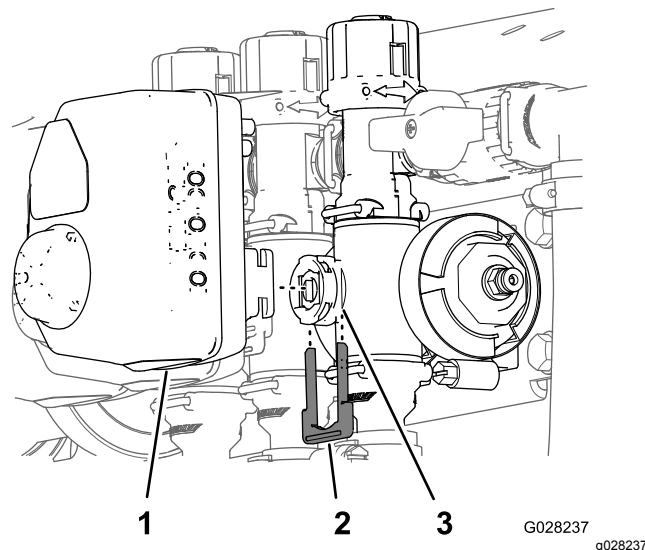

Figure 82
3. Remove the retainer that secures the a actuator to the manifold valve for the rate control, agitation, master boom, or boom section valve (Figure 82).